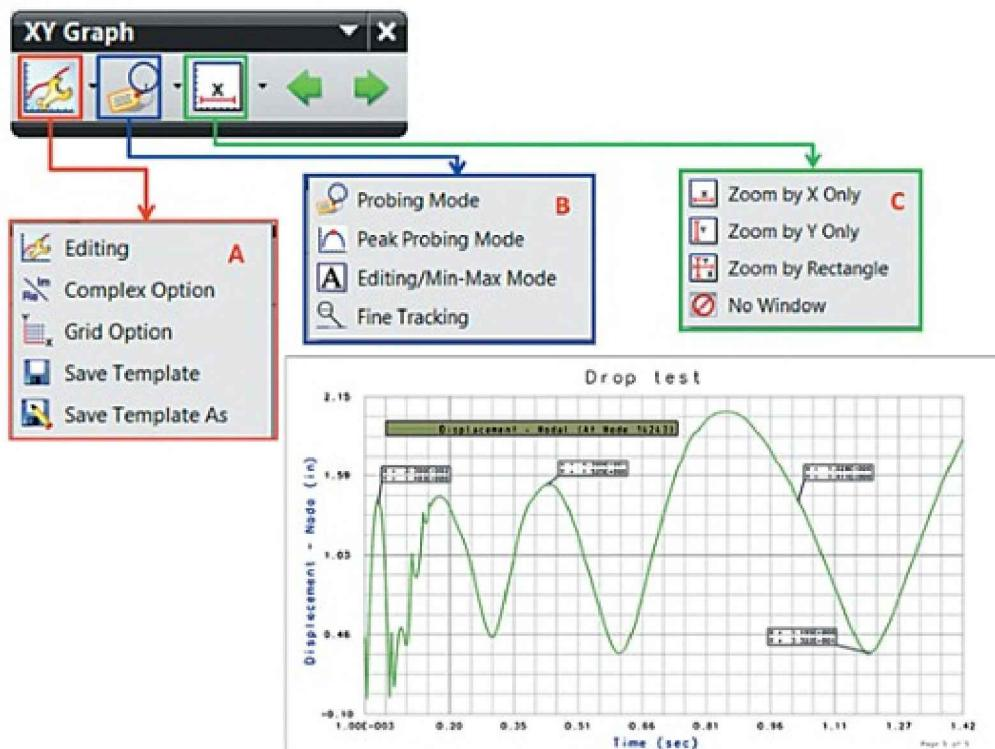

Figure 5.47. Commands of the XY Graph toolbar. Sample graph layout
In addition to the previously described graph commands, you can use other features on the **XY Graph** toolbar. These include reading numerical values, complex transformations, and graph layout options (Figure 5.47).
1. The **Edit** drop-down list contains commands (Figure 5.47, A) that you can use to edit: display format of axes, labels, the graph grid, curves, and so on. You can also use these commands to manage the display of complex values (real/imaginary components or amplitude/phase). You can save all graph display settings in a template that can be reused for other graphs.
2. You can use commands in the **Probing Mode** list to display values at points by directly specifying the points on the curve using one of the available methods (Figure 5.47, B).
3. To scale the graphs, that is, to edit the value output range, you can use commands in the **Zoom by X Only** list (Figure 5.47, C).